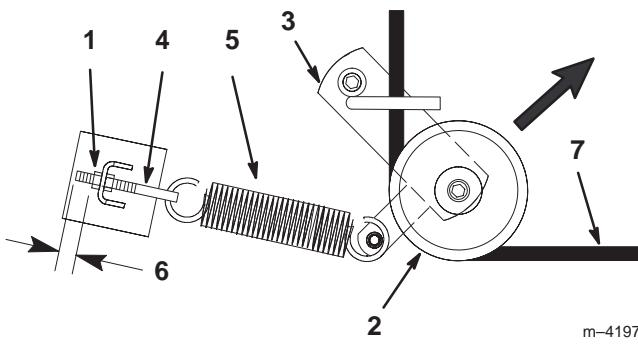
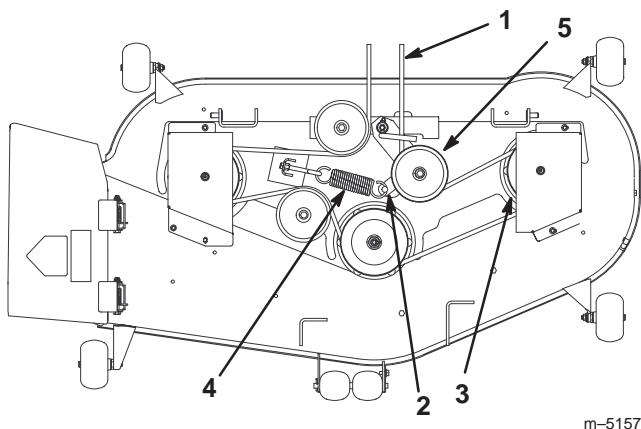

Figure 43
Figure 44
- Pull the idler pulley in the direction shown in Figure 43 and roll the belt off of the pulleys.
- Route the new belt through the idler arm and around the idler pulley (Fig. 43).
6. Pull the idler pulley in the direction shown in Figure 43 and route the belt onto the other pulleys (Fig. 44).
Note: Check to ensure that the length of exposed thread on the spring eye bolt is 1/8 in. (3 mm) (Fig. 43).